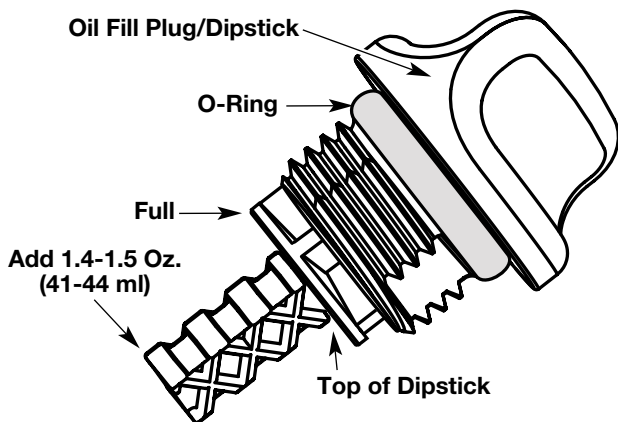
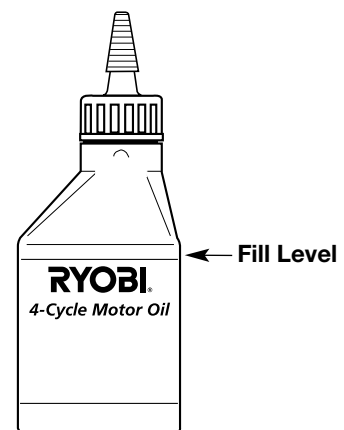

Fig. 28
Fig. 31
5. Remove the oil fill plug/dipstick and check oil level. Oil should be up to the top of the dipstick (Fig. 28).
NOTE: Use the bottle and spout saved from initial use to measure the correct amount. 3.4 ounce (100 ml) is approximately to the top of the label on the bottle (Fig. 31). Check the level with the dipstick. If the level is low, add a small amount of oil and recheck (Fig. 28). Do not overfill.